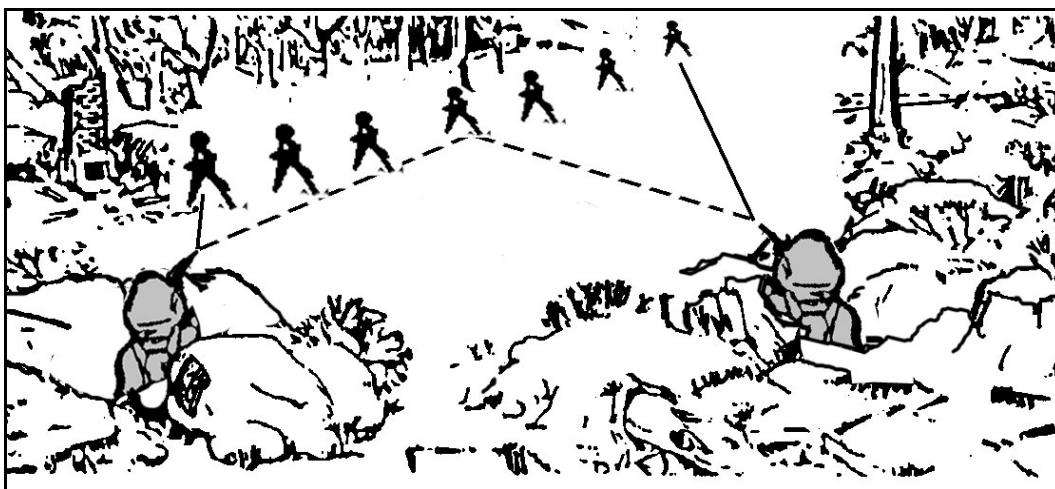

Figure 5-15. Engagement of linear targets with a pair of gunners.
(2) *Linear Targets.* When using a pair of machine guns to engage a linear target, the target is divided at midpoint with the gunner on the right of the target firing on the right half, and the gunner on the left of the target firing on the left half (Figure 5-15).